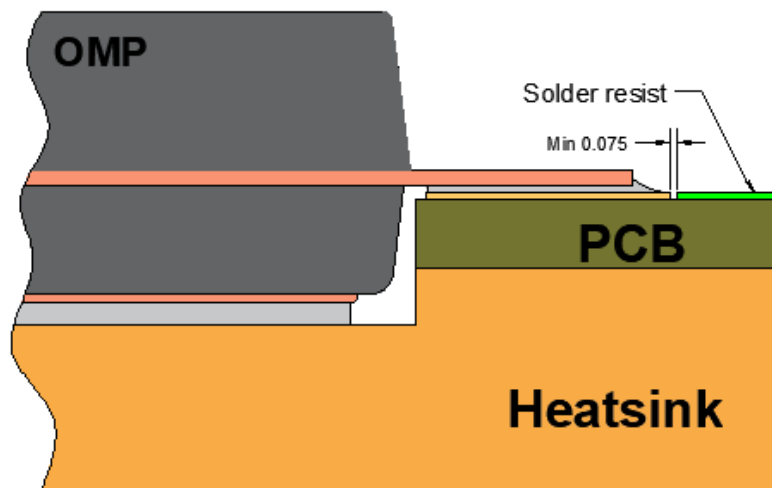

Figure 20. NSMD cross section view OMP straight leads package
- Non solder mask defined (NSMD) the solder mask openings are larger than the exposed metal pad (Figure 20).